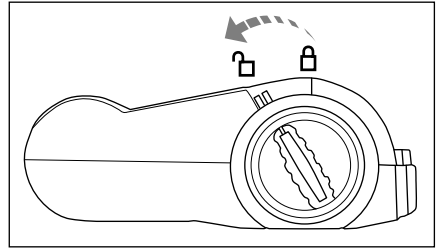

Fig. 7
- 2) Unlock the rotary brush **13** by turning the rotary brush release **17** towards the symbol  (open) (Fig. 7).